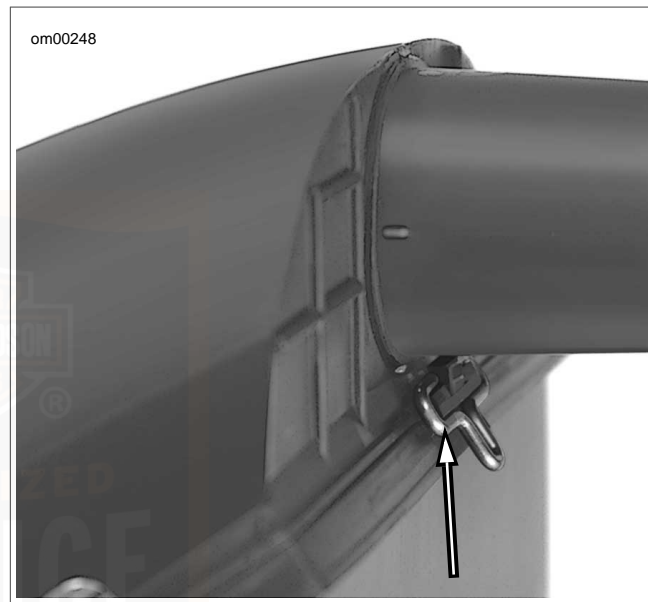

Figure 44. Front Airbox Clip
11. See Figure 44. The front clip under the snorkel is attached to the airbox top. Fasten the clip over the lip on the airbox bottom.